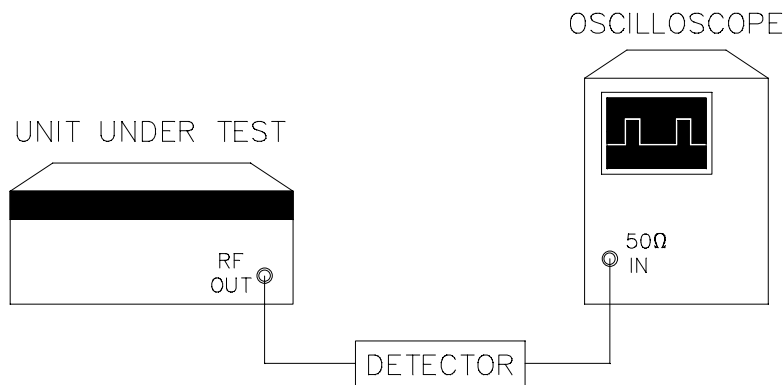

Figure 4-8. Pulse Modulation Accuracy Test
1. Connect the equipment as shown in Figure 4-8. The oscilloscope input impedance should be 50 Ω . Allow 20 minutes warm-up.